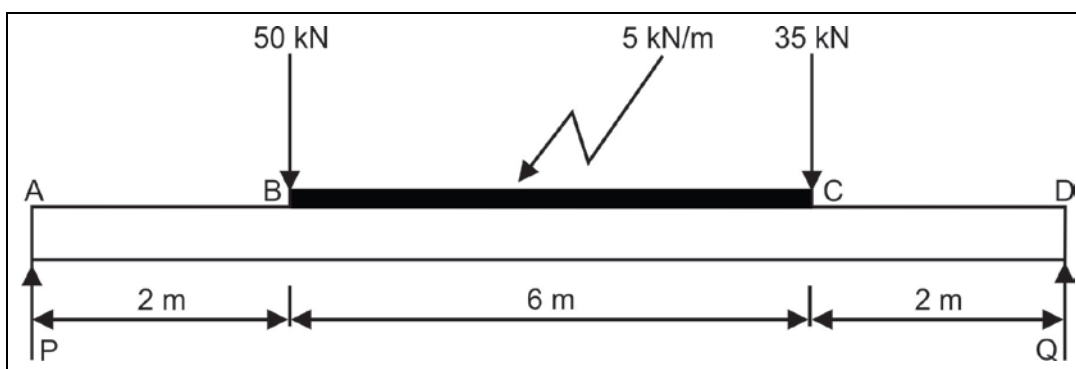

FIGURE 5.2
5.2 FIGURE 5.2 below shows the space diagram of a beam with a uniform distributed load and TWO point loads. Study the beam and answer the following questions: